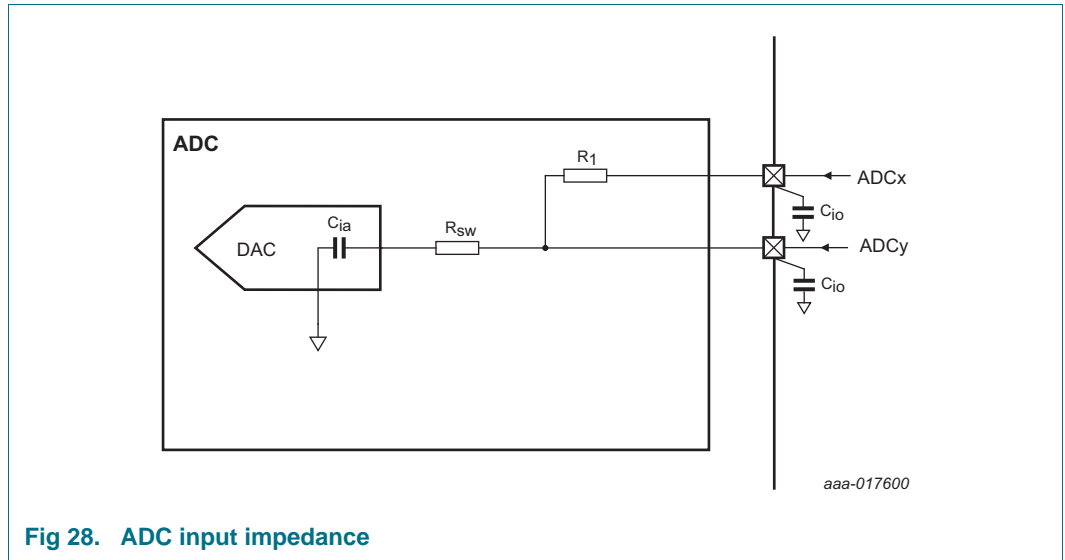

Fig 28. ADC input impedance
- [10] Input impedance Z_i is inversely proportional to the sampling frequency and the total input capacity including C_{ia} and C_{io} : $Z_i \propto 1 / (f_s \times C_i)$. See Table 20 for C_{io} . See Figure 28.
- (1) Example of an actual transfer curve.
- (2) The ideal transfer curve.
- (3) Differential linearity error (E_D).
- (4) Integral non-linearity ($E_{L(adj)}$).
- (5) Center of a step of the actual transfer curve.
Figure 28 shows the ADC input impedance. In this figure: